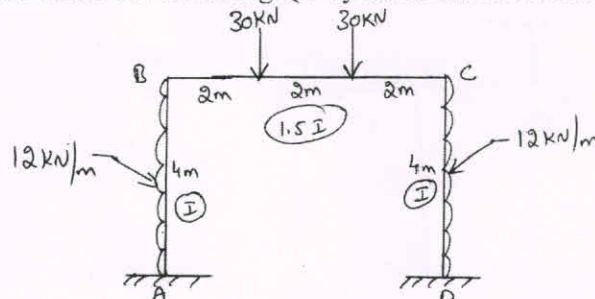

Fig.Q4 (16 Marks)
- 4 Analyze the frame shown in Fig.Q4 by moment distribution method. Draw BMD.